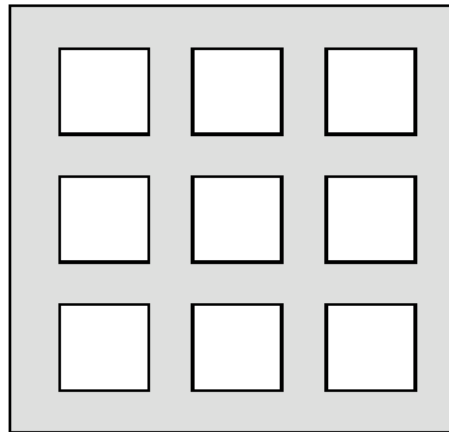

Figure 9: Solder paste application on exposed pad
3. For the PCB thermal pad, solder paste should be printed on the PCB by designing a stencil with an array of smaller openings that sum to 50% of the QFN exposed pad area. Solder paste should be applied through an array of squares (or circles) as shown in Figure 9.